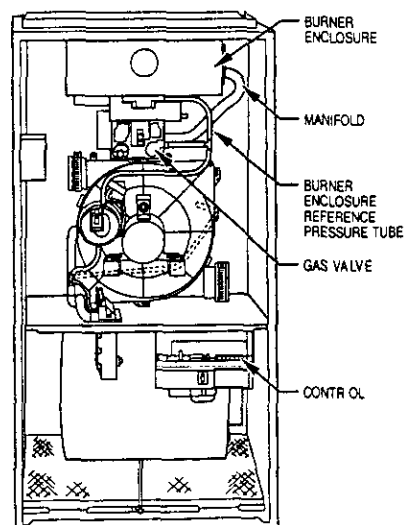

Fig. 28 – Multipoise, Hot-Surface Ignition, Fixed-Speed, Condensing Furnace Component Location (Upflow Orientation Shown)
NOTE: Manifold pressure must always be measured with the burner enclosure front removed. (See Fig. 28) Furnace gas input rate on rating plate is for installations at altitudes up to 2000 ft.
- a. Remove burner box cover (See Fig. 28) and gas valve regulator seal cap that conceal adjustment screw. (See Fig. 22A)